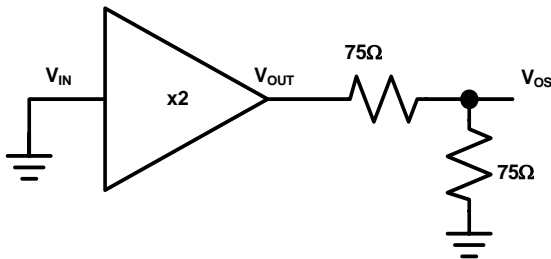

FIGURE 1. V_{OS} MEASUREMENT CONDITIONS
2. Offset measurements are referred to 75Ω load as shown in Figure 1.